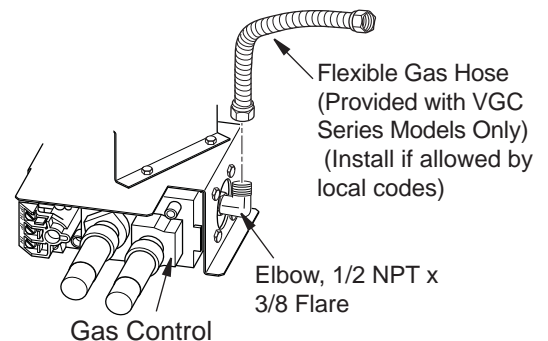

Figure 9 - Attaching Flexible Gas Hose to Appliance Gas Regulator
1. Apply pipe joint sealant lightly to male threads of the 1/2 NPT side of gas fitting elbow (provided) and connect to inlet side of gas control. Remove gas fitting from flexible gas hose (provided) before connecting to elbow (see *Figure 9*).
4. Disconnect gas line from appliance base as shown in *Figure 9, Page 7*.